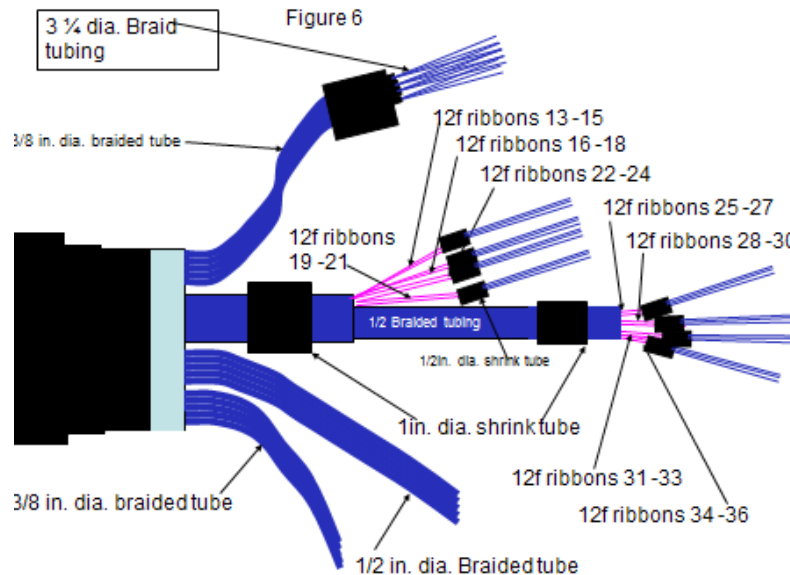

Figure 6
Step 14: The second bundle of ribbons has 8 - 36-fiber ribbons. Slide a piece of 1-inch diameter heat-shrink tubing up over this bundle and the end of its braided tubing. Separate the four ribbons with 12-riber ribbon numbers 13 through 24 from the bundle. Slide the 12-inch length piece of $\frac{1}{2}$ -inch braided tubing over the remaining 36-fiber ribbons (Figure 6). Separate the 12-fiber ribbons 13 through 24 into four groups 13-15, 16-18, 19-21, and 22-24 and slide $\frac{1}{2}$ -inch diameter heat-shrink tubing over each group to within an inch of the $\frac{1}{2}$ -inch braided tubing. Slide the appropriate lengths of $\frac{1}{4}$ -inch braided tubing over the 12-fiber ribbons (See Table 2). Shrink the $\frac{1}{2}$ -inch diameter tubing onto the ends of each group of the $\frac{1}{4}$ -inch diameter braided tubing groups.